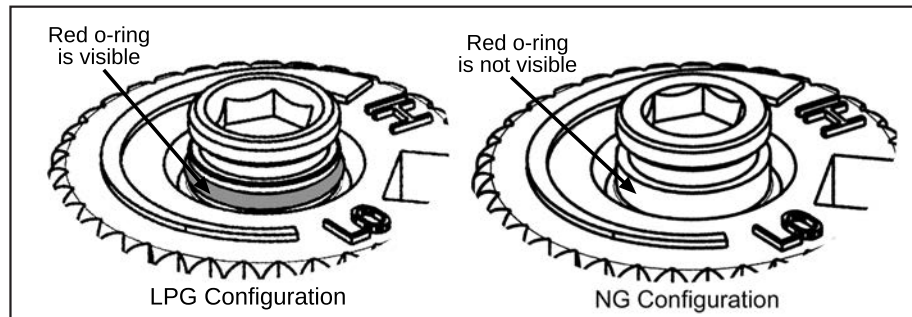

Figure 42: O-ring on valve screw.
- f) Verify that if the conversion is from NG to LPG, the screw must be re-assembled with the red o-ring visible (refer to Figure 42). If the conversion is from LPG to NG, the red o-ring of the screw must be not visible.